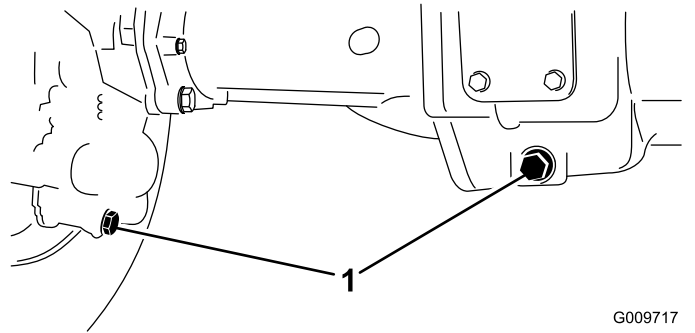

Figure 94
2. Clean the area around the 3 drain plugs, 1 on each end and 1 in the center (Figure 94).